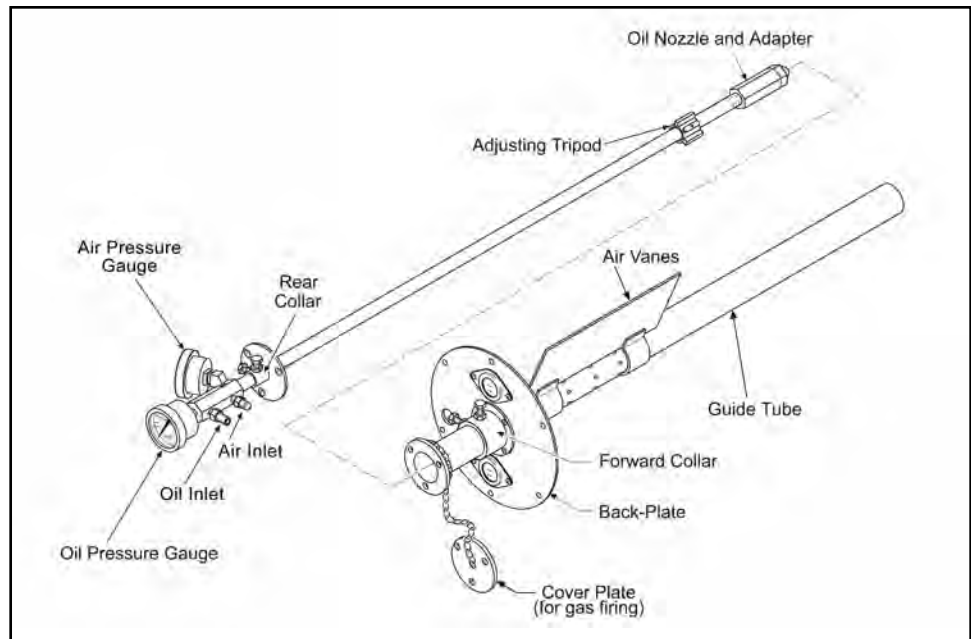

Figure 5-6
**HOW IT WORKS** - See Figure 5-6. The oil and air are delivered to the nozzle through a tube-within-a-tube arrangement. The outer tube carries the air while the inner tube carries the oil.